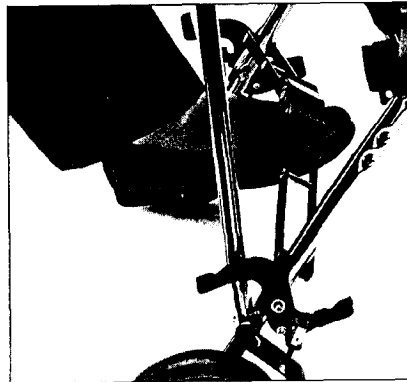

Fig.93
1. Unlock rear brace by pushing up on center of brace. **Fig.93**